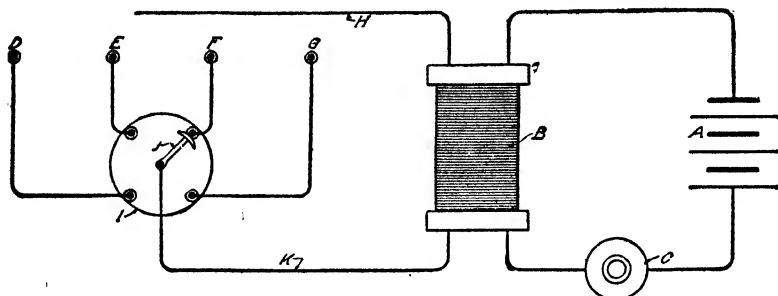

Fig. 46. Wiring Diagram of Non-Vibrator High-Tension System
*Non-Vibrator Coil.* As the term indicates, this is simply an induction coil minus the vibrator. But instead of using four coils, as with the vibrator type, a single coil is employed, and a distributor is inserted in the secondary or high-tension circuit. The essentials of such a system are shown by Fig. 46, a battery being indicated as the source of current. The timer *C* is driven by the camshaft of the motor so that the battery circuit is successively closed and opened in the usual firing order of the cylinders, four contacts being made for each two revolutions of a four-cylinder four-cycle motor. The contact is of sufficient duration to permit the coil to "build up", i.e., to have its soft iron core become thoroughly magnetized, and is then quickly broken. At the instant that the latter occurs, the finger *J* of the distributor is passing the contact of the
independent coil is employed for each cylinder. Owing to the high voltage of the secondary current, actual contact is not necessary in a distributor, a small gap or clearance presenting no obstruction to the passage of the high-tension current, so that wear at this point is avoided. In the earlier types, a brass arm passing close to contact points, or sectors embedded in hard rubber, was usual. Carbon brushes making contact against the disk by means of light springs, were subsequently adopted and are now commonly used. As the carbon is very hard and its contact surface becomes glazed by the friction, the wear is practically negligible. The complete wiring of a distributor system is shown in Fig. 46. *H* is the ground or common-return connection of the secondary circuit and *K* is the connection to the distributor *I*, from which the high-tension current is distributed by the arm *J* to the spark plug leads *D*, *E*, *F*, and *G*.